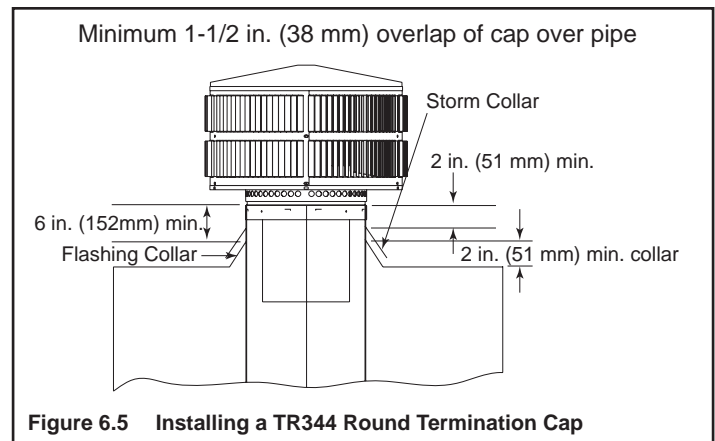

Figure 6.5 Installing a TR344 Round Termination Cap
- Install the chimney sections up through the chase enclosure. When using a TR344 Round Termination Cap, the uppermost top section of pipe must extend 6 in. (152 mm) above the top of the flashing collar to allow installation of the storm collar and termination cap. See Figure 6.5.